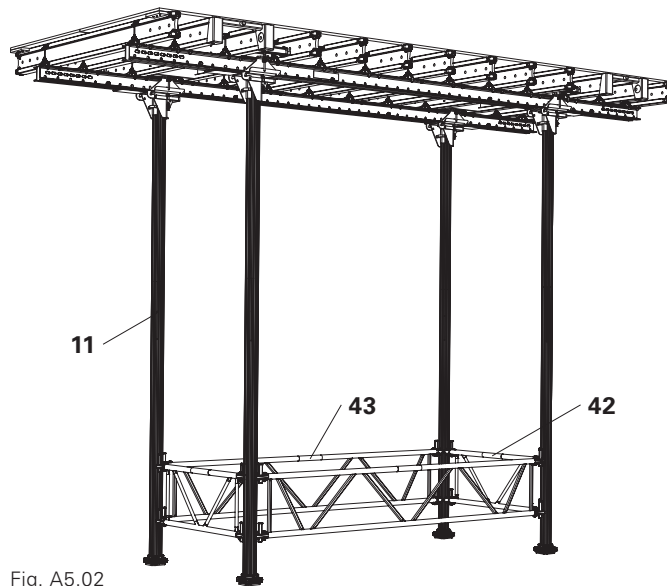

Fig. A5.02
1. Spindle in MULTIPROP MP 625 (11).
2. Install Frame MRK 350 (43) in a longitudinal direction and Frame MRK 150 (42) in a transverse direction, see Instructions for Assembly and Use for the MULTIPROP system. (Fig. A5.02)